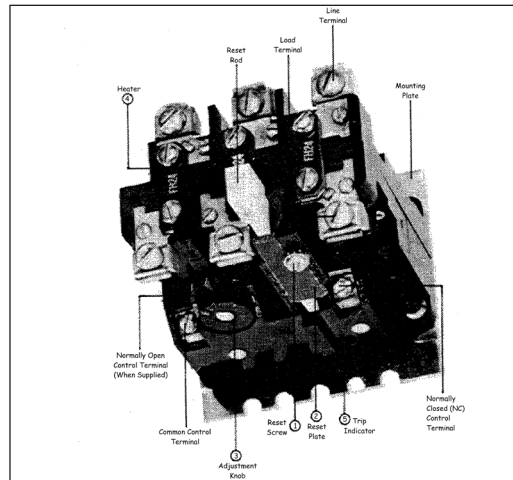

Figure 1. Size 1 overload relay for panel mounting
The strip bimetals in the OLR are indirectly heated by the replaceable heater elements (Item 4 in Figure 1) which carry the motor current. Excess heat is generated in these heater elements by an overloaded motor. The heated bimetals deflect to open the normally closed (NC) contact, thereby opening the coil circuit of a magnetic contactor which disconnects the overloaded motor from the line. After approximately 2 minutes, the relay (if hand reset) may be reset by pressing the reset rod. For relays in the auto position, resetting occurs automatically.
The overload relay is normally furnished set for “HAND” reset operation. The relay may be set for either “HAND” or “AUTO” slightly loosening the reset screw (1), holding the reset plate (2), moving the plate to the proper position marked on the molded case (away from the panel for “Hand” reset and toward the panel for “Auto” reset) and retightening the screw. (See Figure 1.)
The Type A overload relay gives an immediate visible indication of trip. When an overload occurs, which causes the relay to operate, a trip indicator (5) projects out through a small opening at the bottom of the relay. (See Figure 1.)